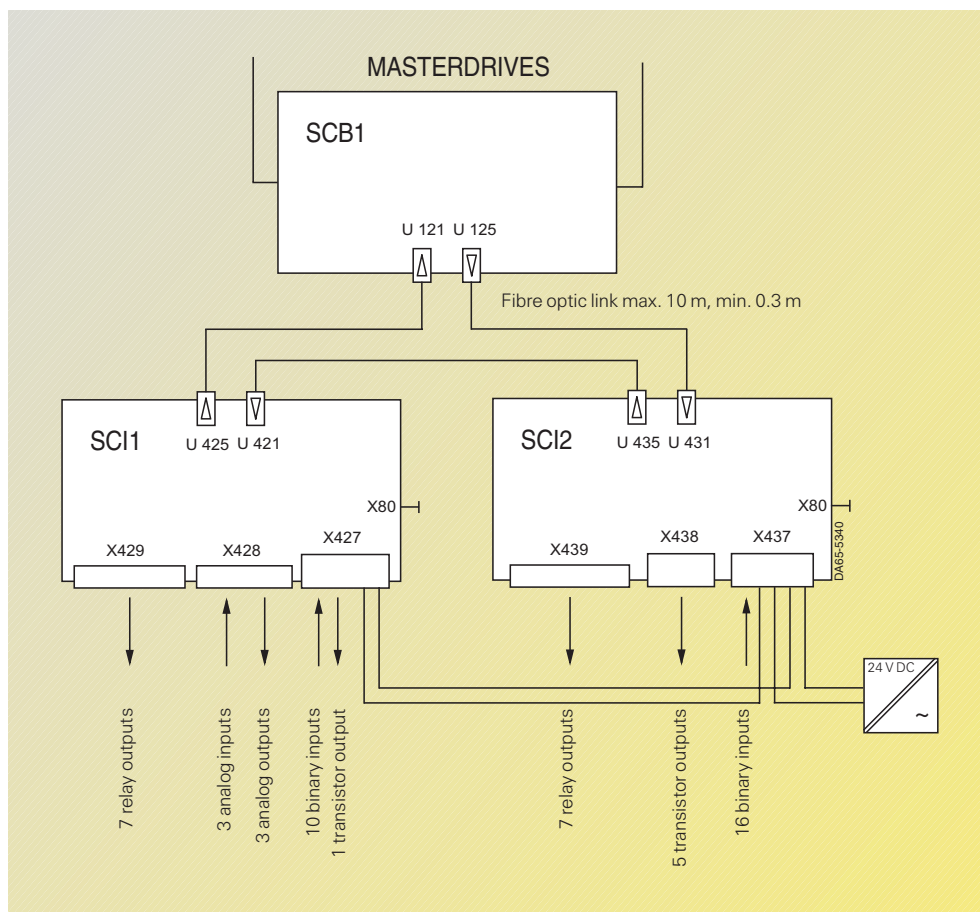

Fig. 6/82
- Peer-to-peer connection between several converters via the RS485 interface (see Fig. 6/83).